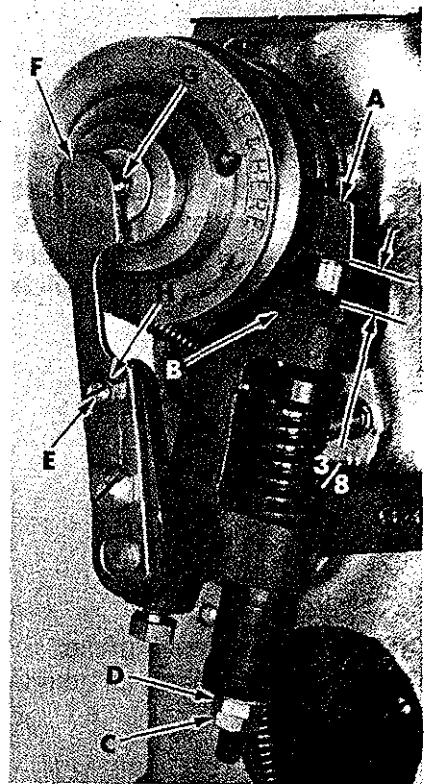

Fig. 1
This position is that which is shown in Fig. 1 with the stop motion disc and pawl against the plunger (A).
With machine in stop position, stop motion plunger (A, Fig. 1) should be set so that there is $3/8$ inch between the bottom of plunger and plunger lever bracket (B).